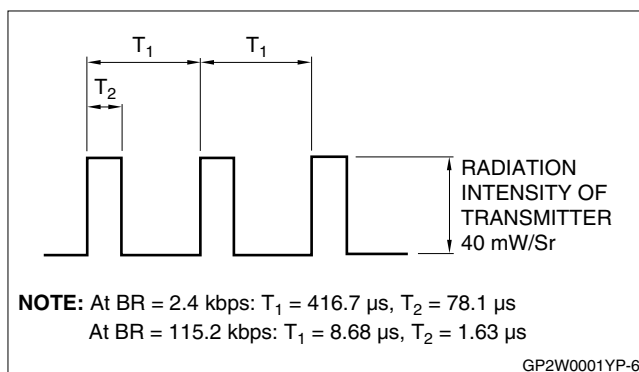

Figure 6. Input Signal Waveform (Detector Side)
- $V_{CC} = 3\text{ V}$ ,  $I_{OL} = 400\text{ }\mu\text{A}$ . See Figures 6, 7, and 8.
- BR = 115.2 kbps. See Figures 6, 7, and 8.
- $V_{OH}$ ,  $V_{OL}$ ,  $t_w$ ,  $t_r$ ,  $t_f$  shall be satisfied at  $\phi \leq 15^\circ$ . See Figures 6, 7, and 8.